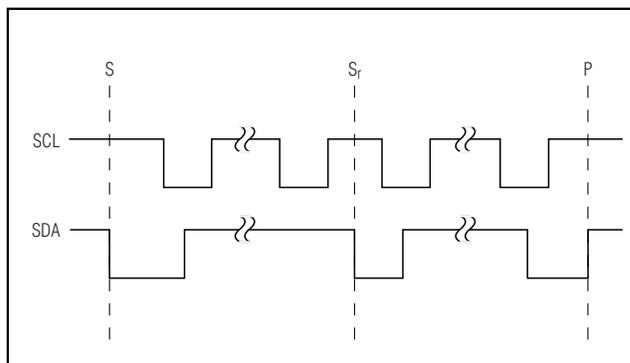

Figure 2. START/STOP Conditions
A master device initiates communication by issuing a START condition (S), a high-to-low transition on SDA with SCL high (Figure 2). The master terminates transmission by a STOP condition (P) (see the *Acknowledge Bit (ACK) and Not-Acknowledge Bit (NACK)* section). A STOP condition is a low-to-high transition on SDA while SCL is high (Figure 2). The STOP condition frees the bus. If a repeated START condition (Sr) is generated instead of a STOP condition, the bus remains active. When a STOP condition or incorrect address is detected, the MAX7472/MAX7473 then ignore all communication on the I2C bus until the next START or REPEATED START condition, minimizing digital noise and feedthrough.